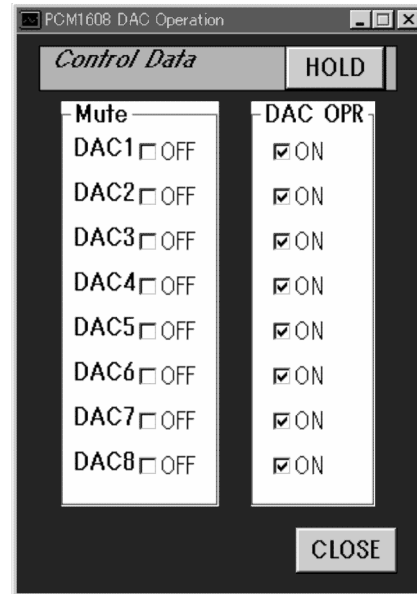

Figure 2-3. Operation Control
- Operation control (see Figure 2-3): allows users to control mute on/off and DAC operation enable/disable by channel.